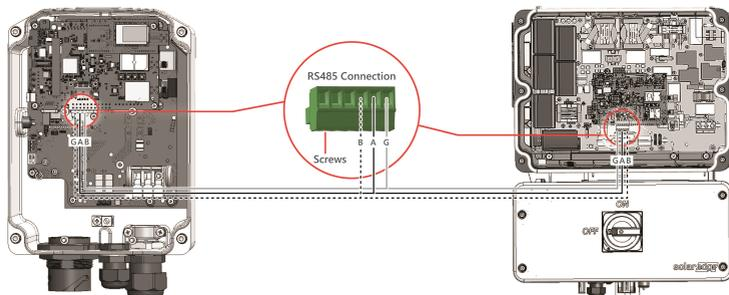

Figure 14: RS485 connection between the Single phase inverter with HD-Wave technology and the SolarEdge Home EV Charger
- c. Loosen the screws of the connector and connect the SolarEdge Home EV Charger wires according to the connector label B to B, A to A, and G to G, see *Figure 14*. The wire for G is not from the same twisted pair as A or B.